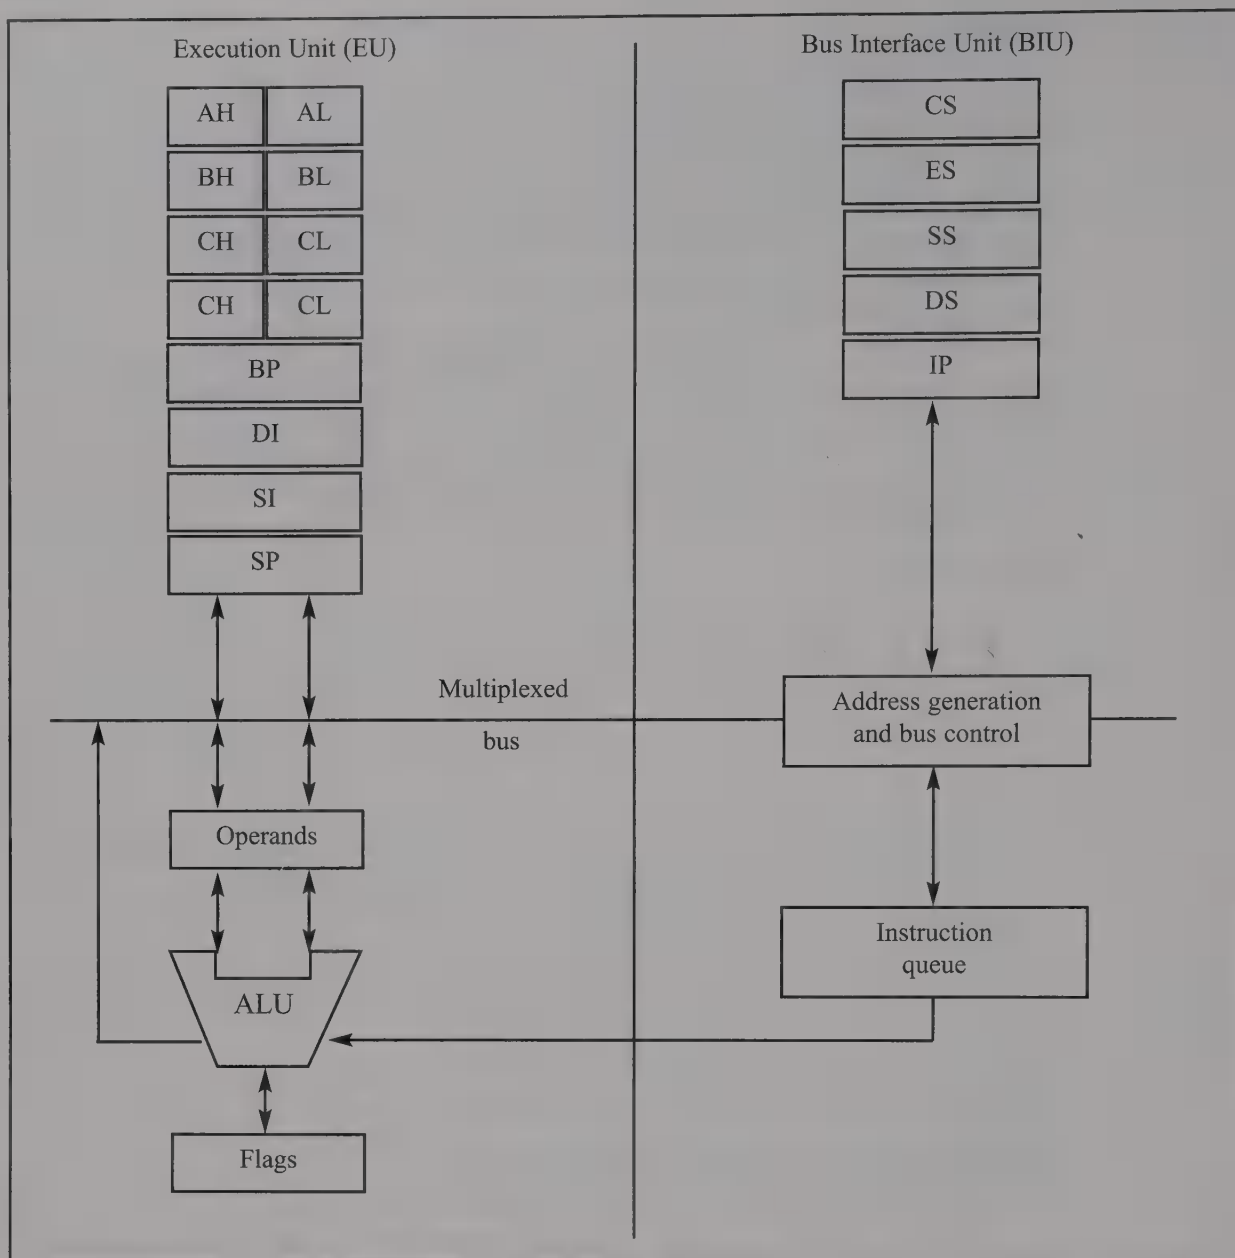

Figure 1-1. Internal Block Diagram of the 8088/86 CPU
In this section we explore concepts important to the internal operation of the 8088/86, such as pipelining and registers. See the block diagram in Figure 1-1.
Intel implemented the concept of pipelining in the 8088/86 by splitting the internal structure of the microprocessor into two sections: the execution unit (EU) and the bus interface unit (BIU). These two sections work simultaneously. The BIU accesses memory and peripherals while the EU executes instructions previously fetched. This works only if the BIU keeps ahead of the EU; thus the BIU of the 8088/86 has a buffer, or queue (see Figure 1-1). The buffer is 4 bytes long in the 8088 and 6 bytes in the 8086. If any instruction takes too long to execute, the queue is filled to its maximum capacity and the buses will sit idle. The BIU fetches a new instruction whenever the queue has room for 2 bytes in the 6-byte 8086 queue, and for 1 byte in the 4-byte 8088 queue. In some circumstances, the microprocessor must flush out the queue. For example, when a jump instruction is executed, the BIU starts to fetch information from the new location in memory and information in the queue that was fetched previously is discarded. In this situation the EU must wait until the BIU fetches the new instruction. This is referred to in computer science terminology as a branch penalty. In a pipelined CPU, this means that too much jumping around reduces the efficiency of a program. Pipelining in the 8088/86 has two stages, fetch and execute, but in more powerful computers pipelining can have many stages. The concept of pipelining combined with an increased number of data bus pins has, in recent years, led to the design of very powerful microprocessors.